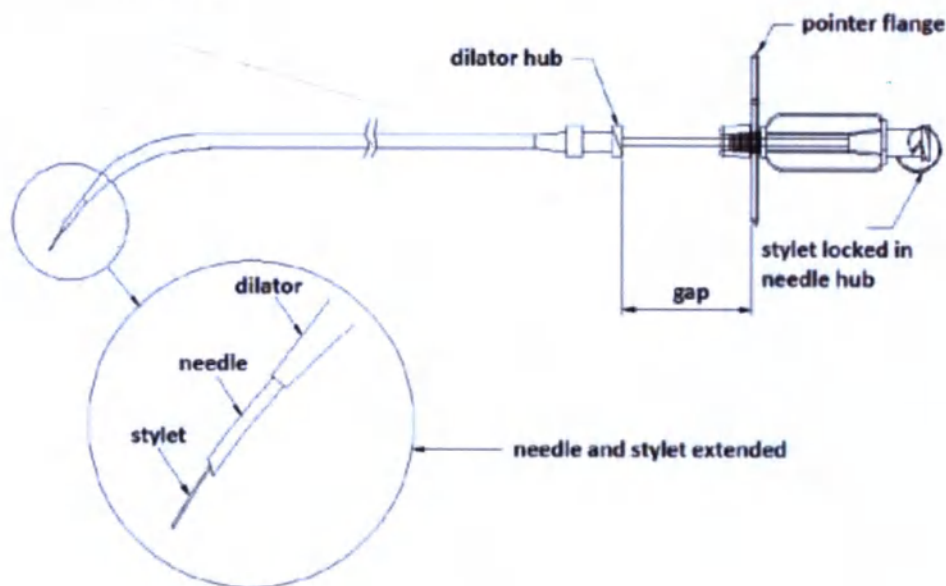

Fig. 3
- Insert the needle assembly into the sheath/dilator. Due to the stop feature of the dilator, there will be a gap between the dilator hub and the needle pointer flange. (See Fig.3. Magnification is 2.9).